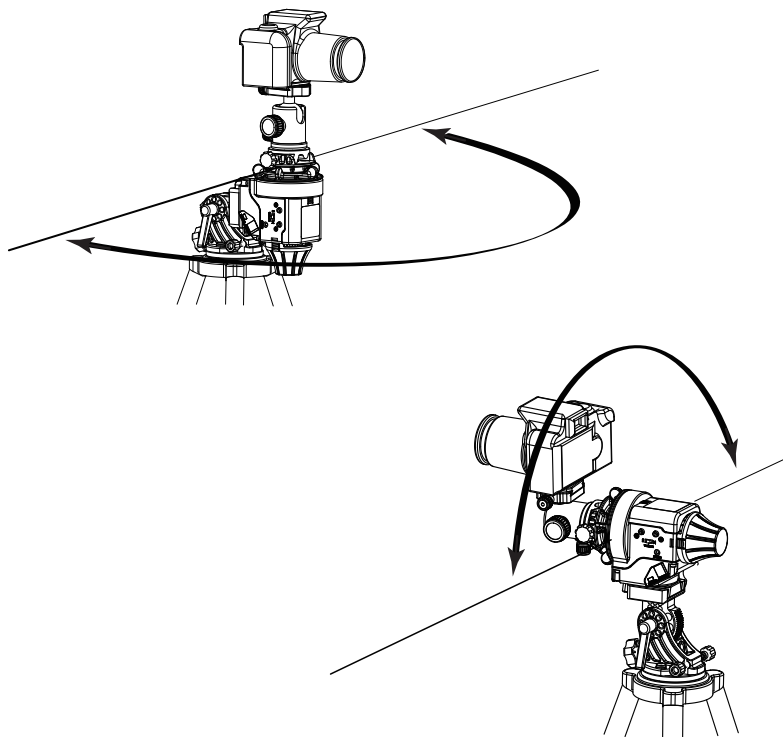

Fig 33
4. **Sky Memo S** will rotate firstly to the right with a speed of 2 hour per revolution until reaching 180° , then oscillate within this range. (Fig 33). At the same time, it will assume control of the camera by activating the camera's shutter release function with an interval period of 2 seconds (as if you are pushing on the shutter release button of the camera for 1.5 seconds, and not pushing for 0.5 seconds and pushing again for 1.5 seconds).